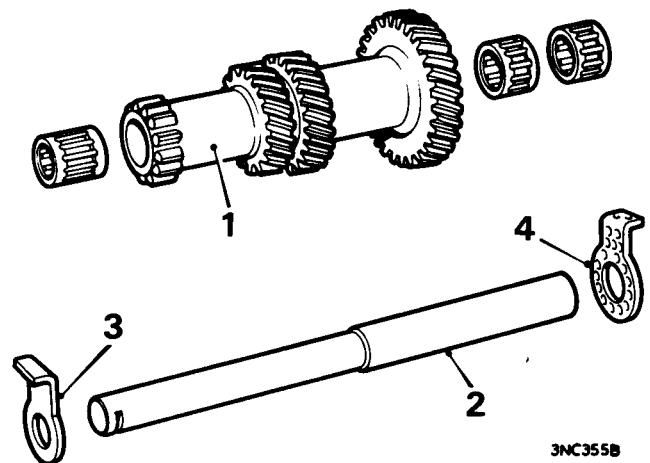

Fig. F.15
28. Take out the small thrust washer from the laygear, remove the laygear and the larger thrust washer, Fig. F.15.